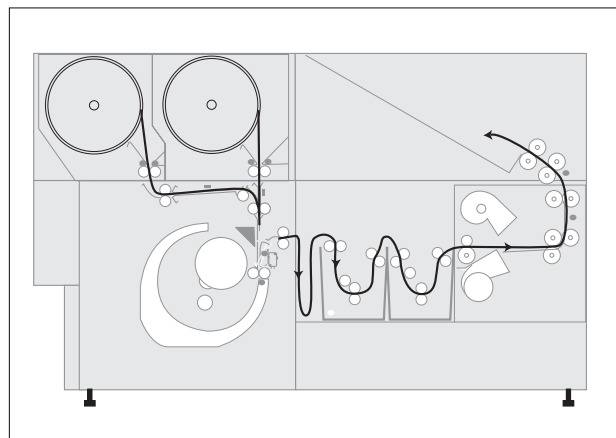

Fig. 6
6. The plate is carried through the activator and stabilizer tanks, fig. 6.